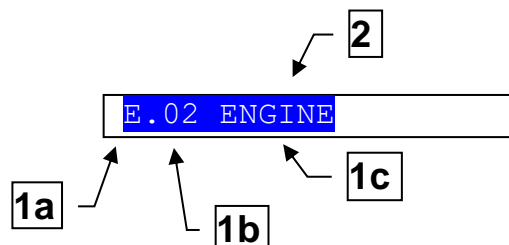

Fig. 5 – Display of the top status bar
7.5.5 Top status bar (ref. to fig. 5)